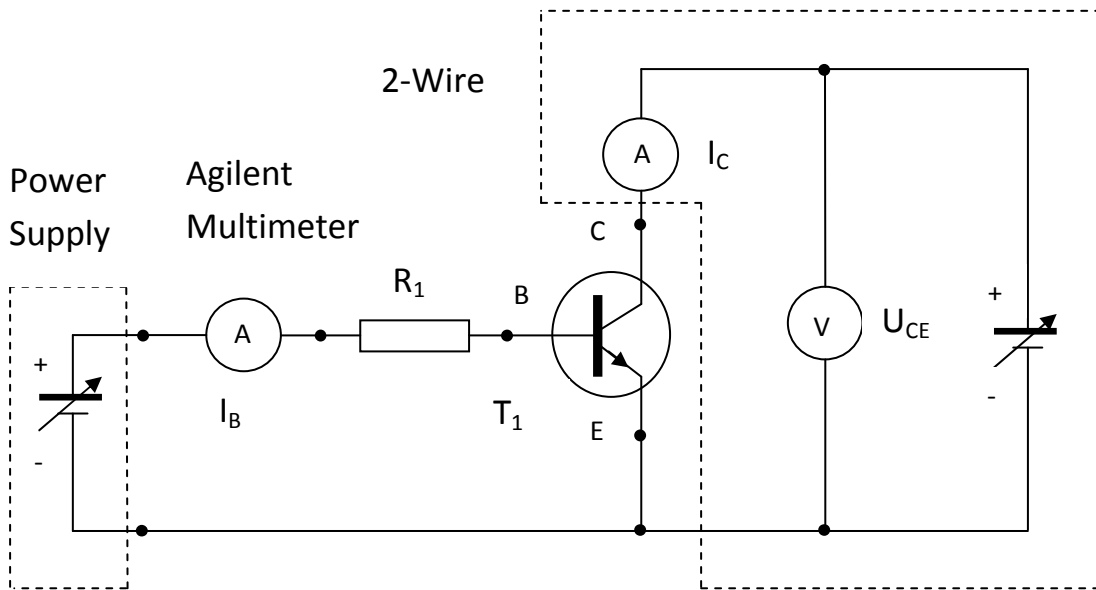

Fig. 3.1. Schematic of measurement setup utilized to determine output characteristics of npn bipolar transistor in normal connection.
- 4.1. Construct the measurement setup from Fig.3.1. Use virtual multimeter (DMM) or Agilent multimeter to measure the base current. Use laboratory power supply as a power supply polarizing base-emitter circuit. Elements values equal to: $R_1=100\text{ k}\Omega$, transistor T1 chosen by the teacher. Draw the output npn bipolar transistor characteristic in normal connection for the U_{CE} voltage within 0-10 V range, changing the voltage by 0.1 V, for fixed base current. The base current I_B should be changed from the starting value $10\text{ }\mu\text{A}$ with the step of $10\text{ }\mu\text{A}$ in the range chosen by the teacher (for example 10, 20, 30, 40, 50 μA). Base current value is adjusted by setting the proper voltage at the output of power supply in a base circuit.